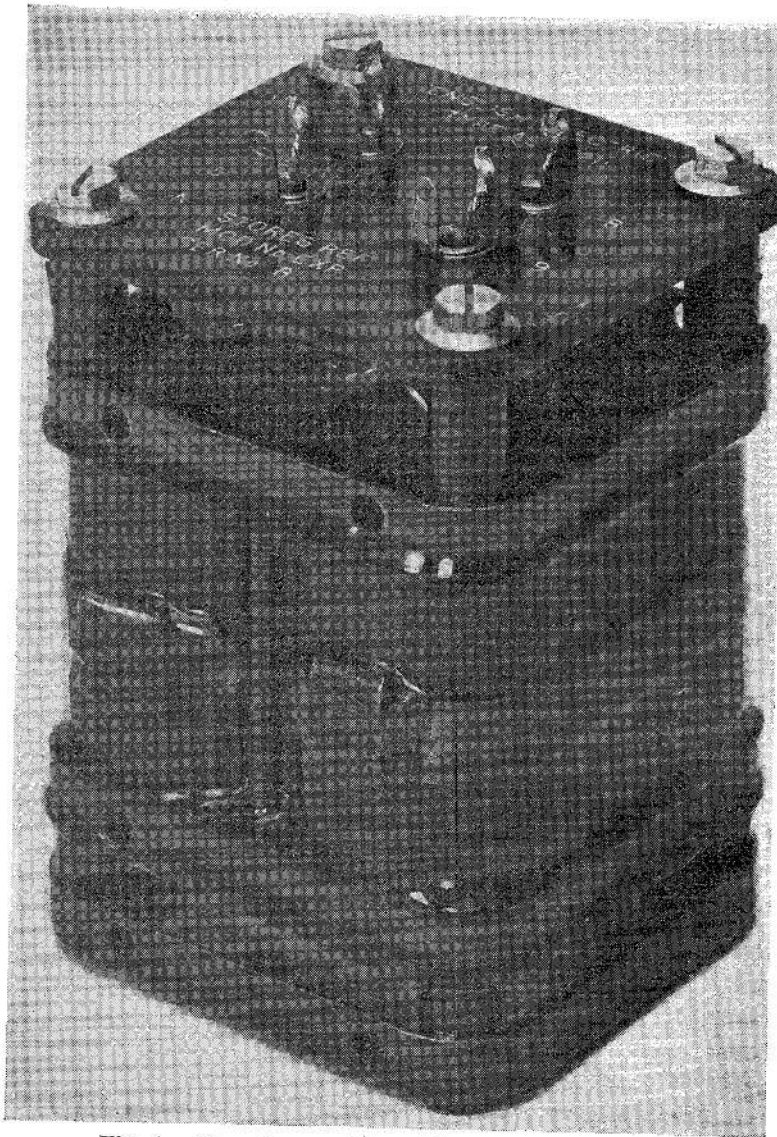

Fig. 1. Transformer, Type AE5721, general view
1. The Type AE5721 transformer (*fig. 1*) is a single phase, double wound transformer which is naturally cooled and designed to supply an intermittent load nominally at 80 volts from a 200 V, 400 c/s supply.